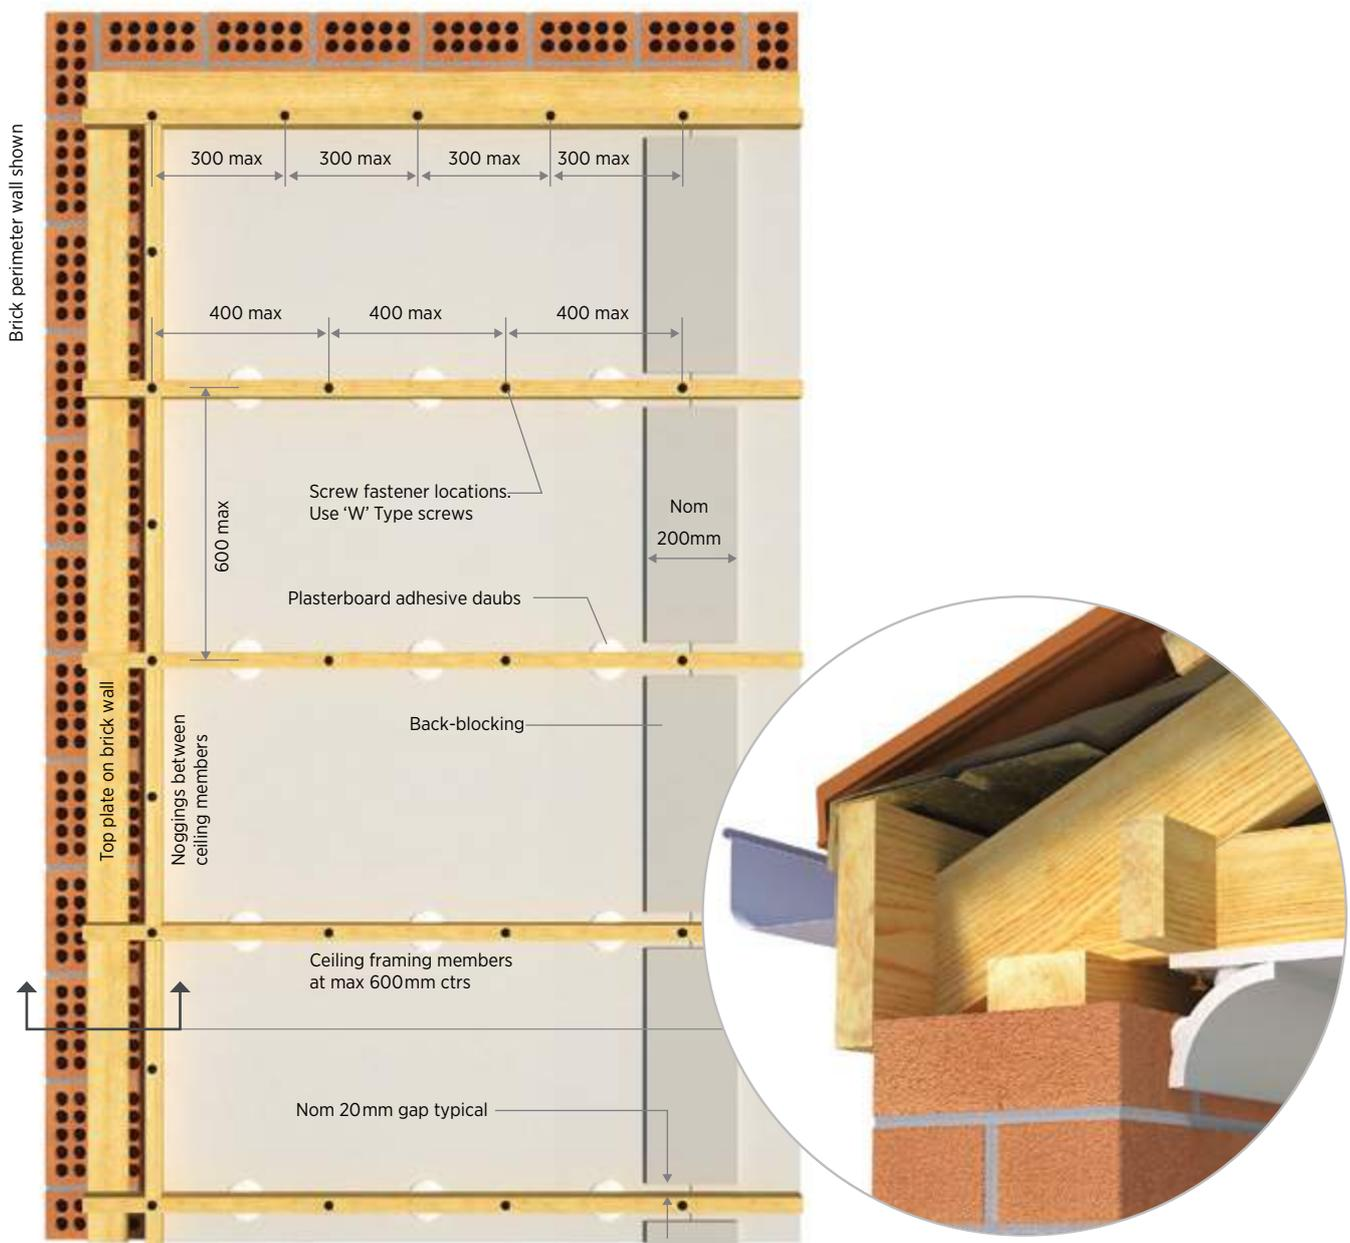

Figure 27: **Garage ceiling fixing layout** (1200mm wide plasterboard sheets shown)
- Fasten along the perimeter lines @ 300mm max centres as illustrated in Figure 27